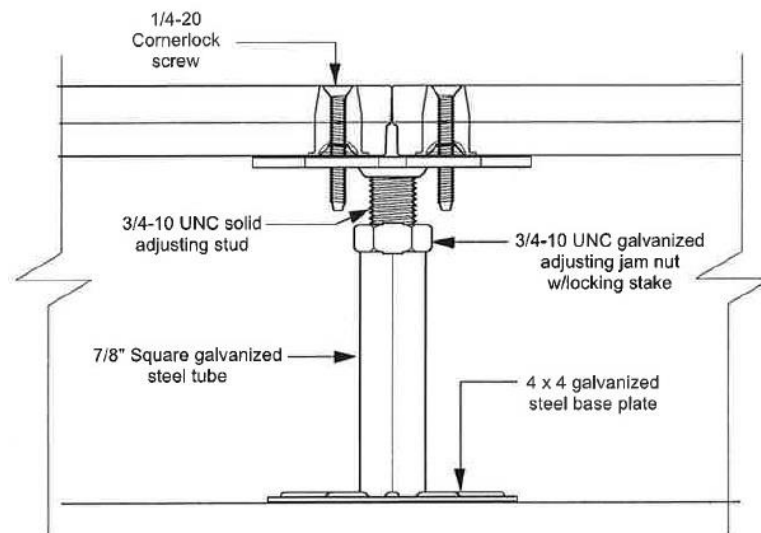

FIGURE 12 – Typical Pedestal / Panel Cross-Section without stringers
3.3.1 The *TecCrete* panel is fastened directly to the pedestal head for the *TecCrete* Cornerlock systems. See Figure 1 and 2. The connection is made via 1/4" – 20 TPI flat head Phillip-drive, carbon steel screw with a case hardness HRC 45. See Figure 12.